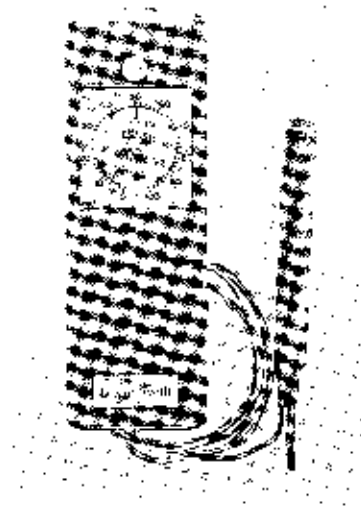

Figure 8. Changeover Thermostat
**1-11 Changeover Thermostat (See Fig. 8)**